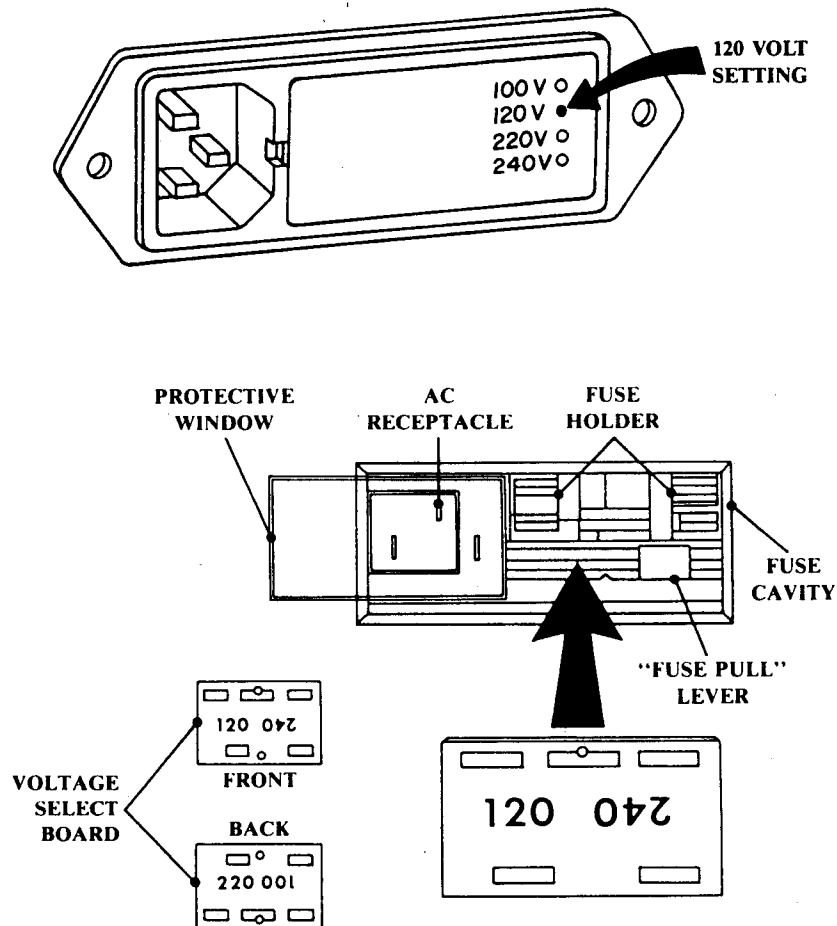

FIGURE 0-1. EXAMPLE 120 VOLT SETTING
- ☐ Look at the power entry module on the bottom of the plotter. Your plotter may be equipped with either of two power entry modules. One module uses a pin to indicate the plotter's voltage setting (see Figure 0-1). The other module uses a numbered voltage select board inside the fuse cavity (see Figure 0-1). Be sure the number visible matches the line voltage at your site. If not, refer to Paragraph 5.2.